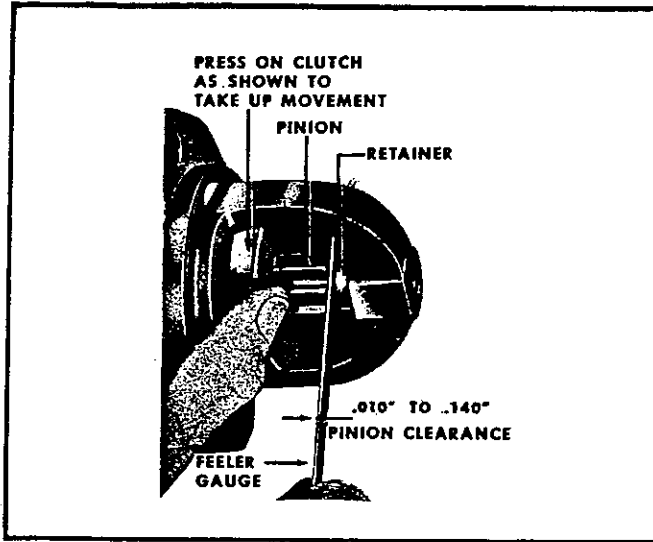

Fig. 134—Checking Roller Clutch Pinion Clearance
5. Measure the distance between pinion and pinion stop. This clearance should be .010 to .140 (Fig. 134).
Adjust the pinion clearance by loosening the screw on the serrated shaft lever linkage and moving it forward or backward. Press on clutch as shown in Figure 134 to take up movement.